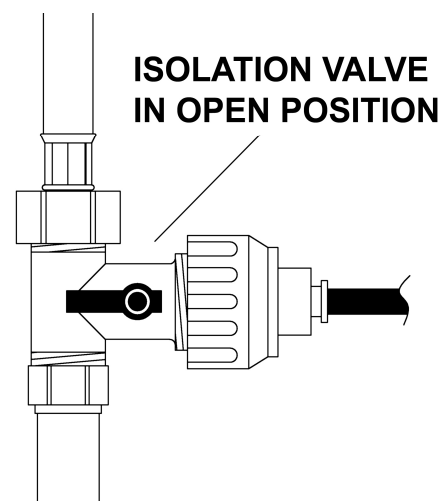

Fig 3.
7. Write the date of installation onto the label of the new filter cartridge (E).
8. **Firmly** push the blue pipe (C) into filter fitting (D). Note you may wish to gently 'tug' the pipe (C) to check it is secure.
9. Repeat the process to insert blue pipe (H) into fitting (G). Ensure the filter inlet (G) and outlet fittings (D) are connected to the correct blue pipes, respecting the direction of flow arrow marked on the body of the filter (E).
10. Clip the filter (E) back into its bracket (F).
11. Turn your mixer tap (A) to the off (upright) position.
12. Turn the lever on the isolator (B) to the open position (fig 3.)